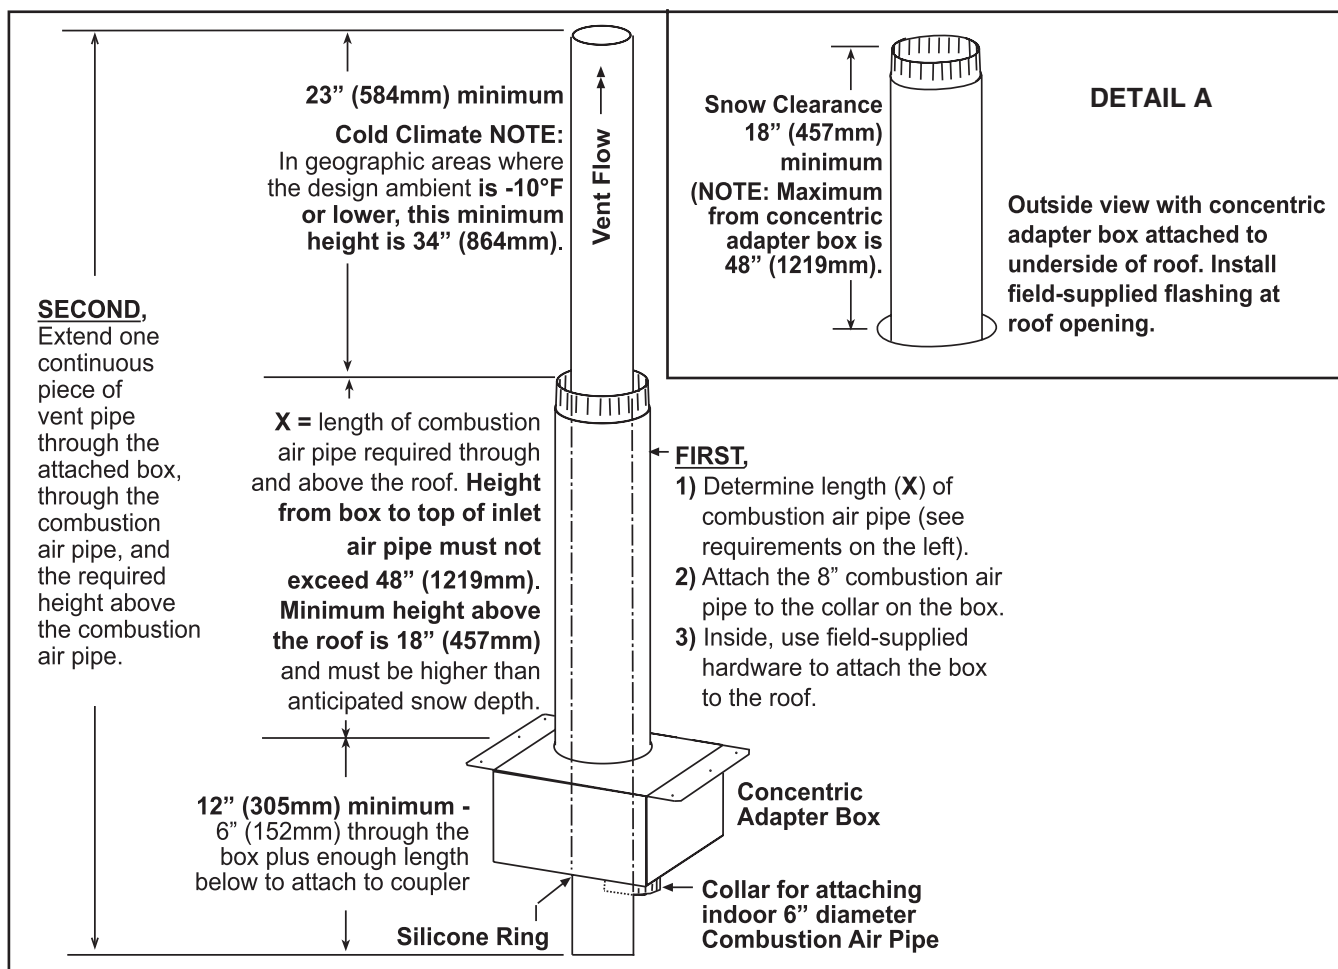

Figure 15. Combustion Air Pipe Installation
4. Connect combustion air pipe to concentric adapter box (see Figure 15):
- a. Determine length of combustion air pipe so that dimension X in Figure 15 is equal to roof thickness plus anticipated snow depth. Ensure that length of combustion air pipe does not exceed 48 inches (1,219 mm) or does not extend *less than* 18 inches (457 mm) above roof.
- a. Insert combustion air pipe through roof as shown in Figure 15, DETAIL A.
- Refer to **Figure 15** to determine required length of continuous section of vent pipe. Determine length as follows: **1)** start with at least 6 inches (152 mm) below concentric adapter box for connecting to coupler, **2)** plus 6 inches (152 mm) through box, **3)** plus length of combustion air pipe, **4)** plus minimum of 23 inches (584 mm) beyond top of combustion air pipe—total is minimum length of vent pipe section.